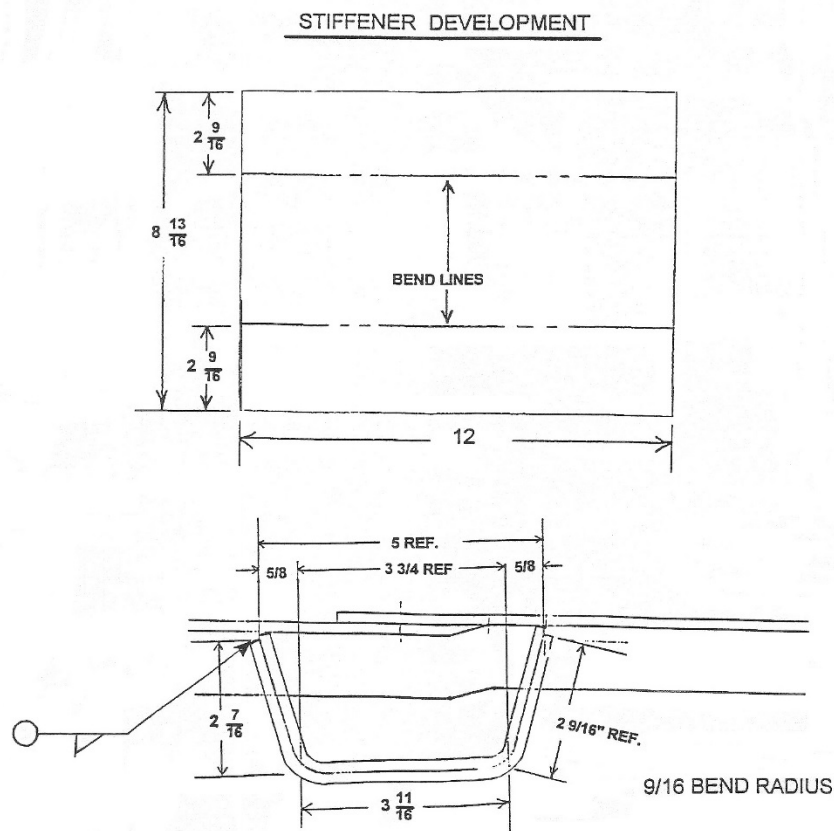

Figure 17. Repairing Cracks in Deck Longitudinal Stiffeners
3. Make the deck stiffener patch as shown in Figure 17.